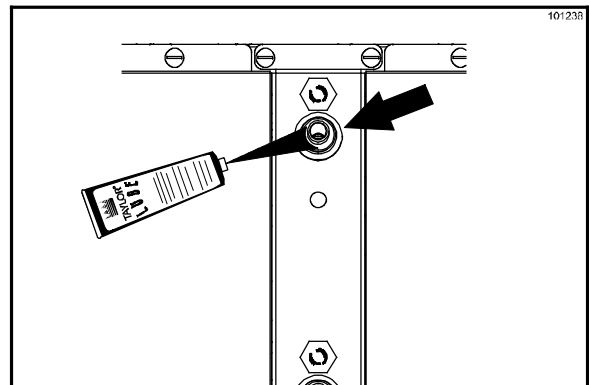

Figure 106
- Lightly lubricate the inlet fittings, using an approved food grade lubricant (example: Taylor Lube). Make sure no lubricant enters the fittings. (See Figure 106.)